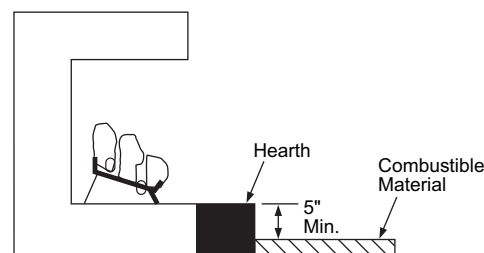

Figure 9 - Minimum Fireplace Clearances Above Combustible Flooring
- If combustible materials are less than 14" to the fireplace, you must install appliance at least 5" above the top surface of combustible flooring including tile and carpet. (*see Figure 9*).